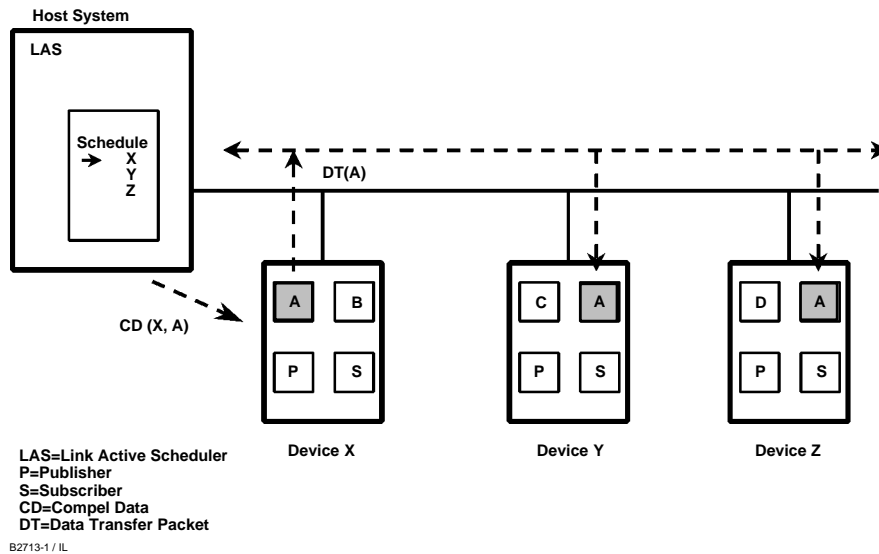

Figure D-4. Scheduled Data Transfer
Figure D-4 diagrams the method of scheduled data transfer. Scheduled data transfers are typically used for the regular cyclic transfer of process loop data between devices on the fieldbus. Scheduled transfers use publisher/subscriber type of reporting for data transfer. The Link Active Scheduler maintains a list of transmit times for all publishers in all devices that need to be cyclically transmitted. When it is time for a device to publish data, the LAS issues a Compel Data (CD) message to the device. Upon receipt of the CD, the device broadcasts or “publishes” the data to all devices on the fieldbus. Any device that is configured to receive the data is called a “subscriber”.